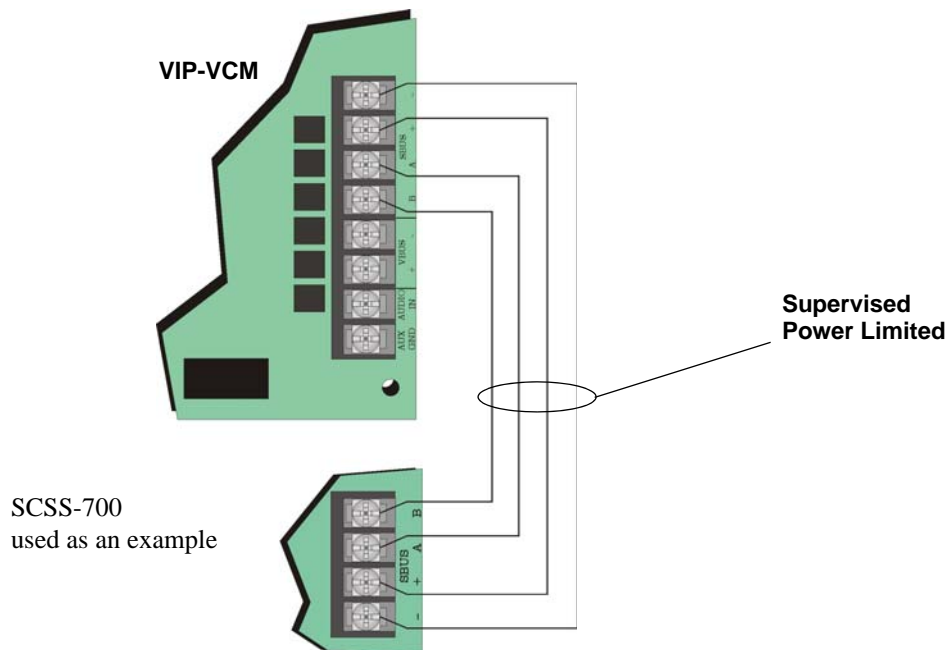

Figure 3-8 SBUS Connections
Refer to Figure 3-8 to properly connect the VIP-VCM to the FACPs SBUS.
2. Disconnect the SBUS connections from the SBUS terminals on the VIP-VCM. See Figure 3-8.